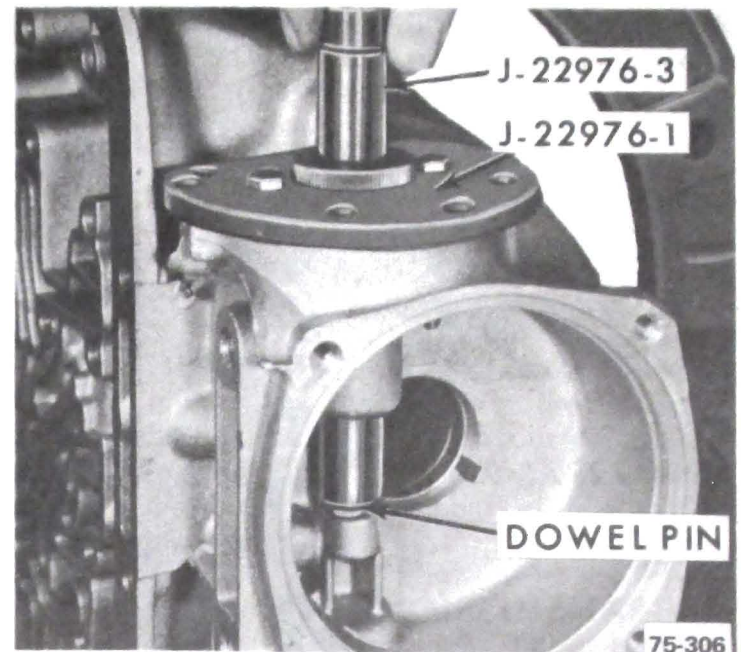

Figure 75-290
6. Place the alignment arbor J-22976-3 into the drill bushing fixture and down into the governor bore until it bottoms on the dowel pin. See Figure 75-290.